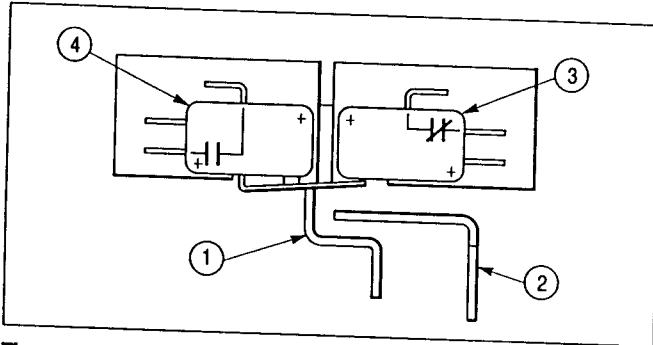

Figure 9a. Position 1. Springs discharged; motor in run position.
(Note that **Figures 9a-9c** are depicted as viewed from below)
In **Figure 9a**, note that spring position lever (1) is forward, actuating both switches. Motor/gear position lever (2) is retracted. Motor cutoff switch (3) is closed. Application of power at this time will cause the motor to start, thereby charging the closing springs.
The springs have reached charged position. The motor/gear lever (2) has been retracted by roll pins on the large gear as the cam follower (82, **Figure 2**) on the large spur gear has disengaged from the wind and close cam (34, **Figure 2**). The motor cutoff switch (3) has opened, stopping the motor and the closing coil switch (4) has closed. Upon application of power to the closing circuit, the breaker will close. Switches then return to position 1 (**Figure 9a**).